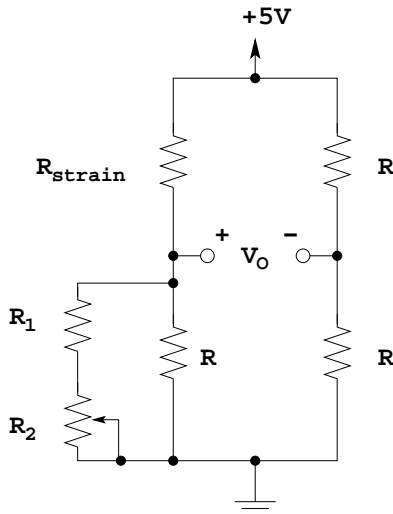

Figure 4.
4. Consider Wheatstone bridge in Figure 4 (ignore R_1 and R_2 initially). This simple four resistor circuit has been used for many years to convert a change in small resistance to a proportional change in output voltage.